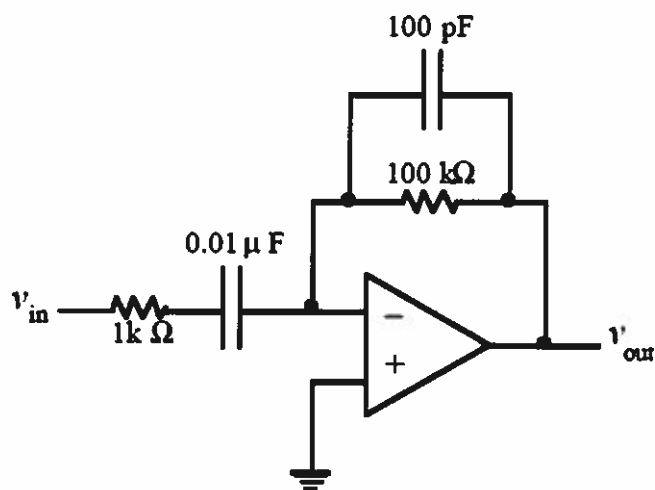

Figure 4B. Schematic of Differentiator Op-Amp
1. Construct the circuit shown in Figure 4B